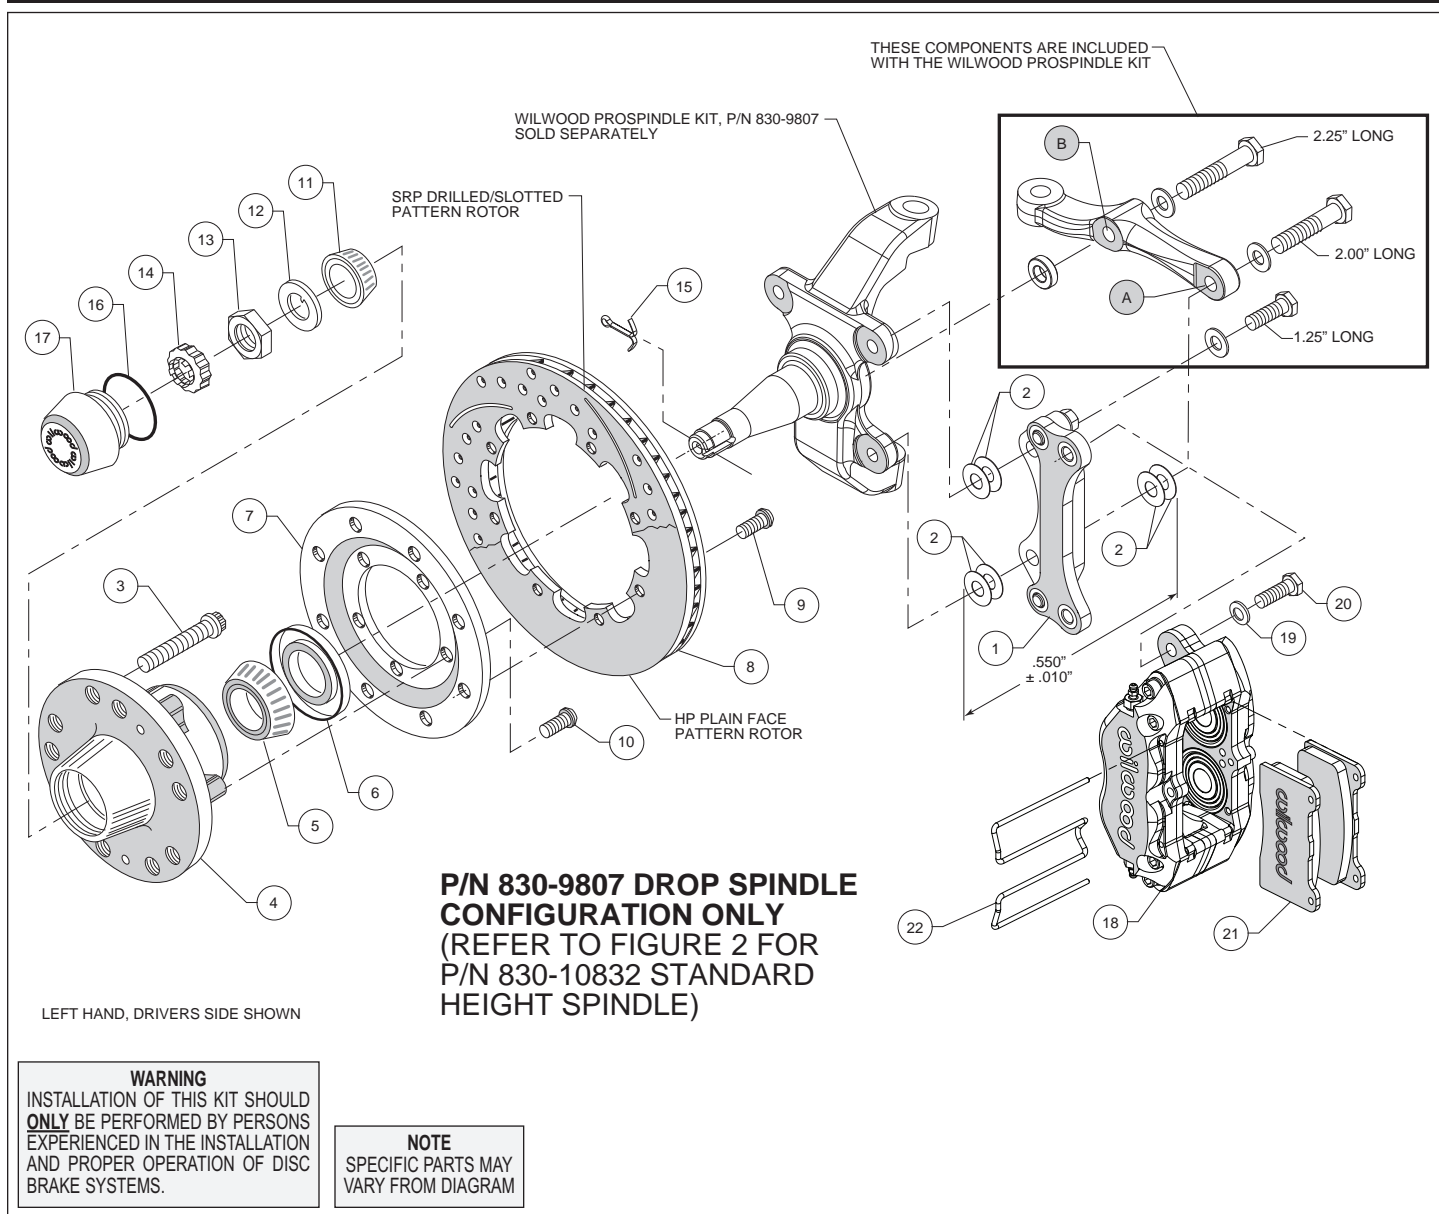
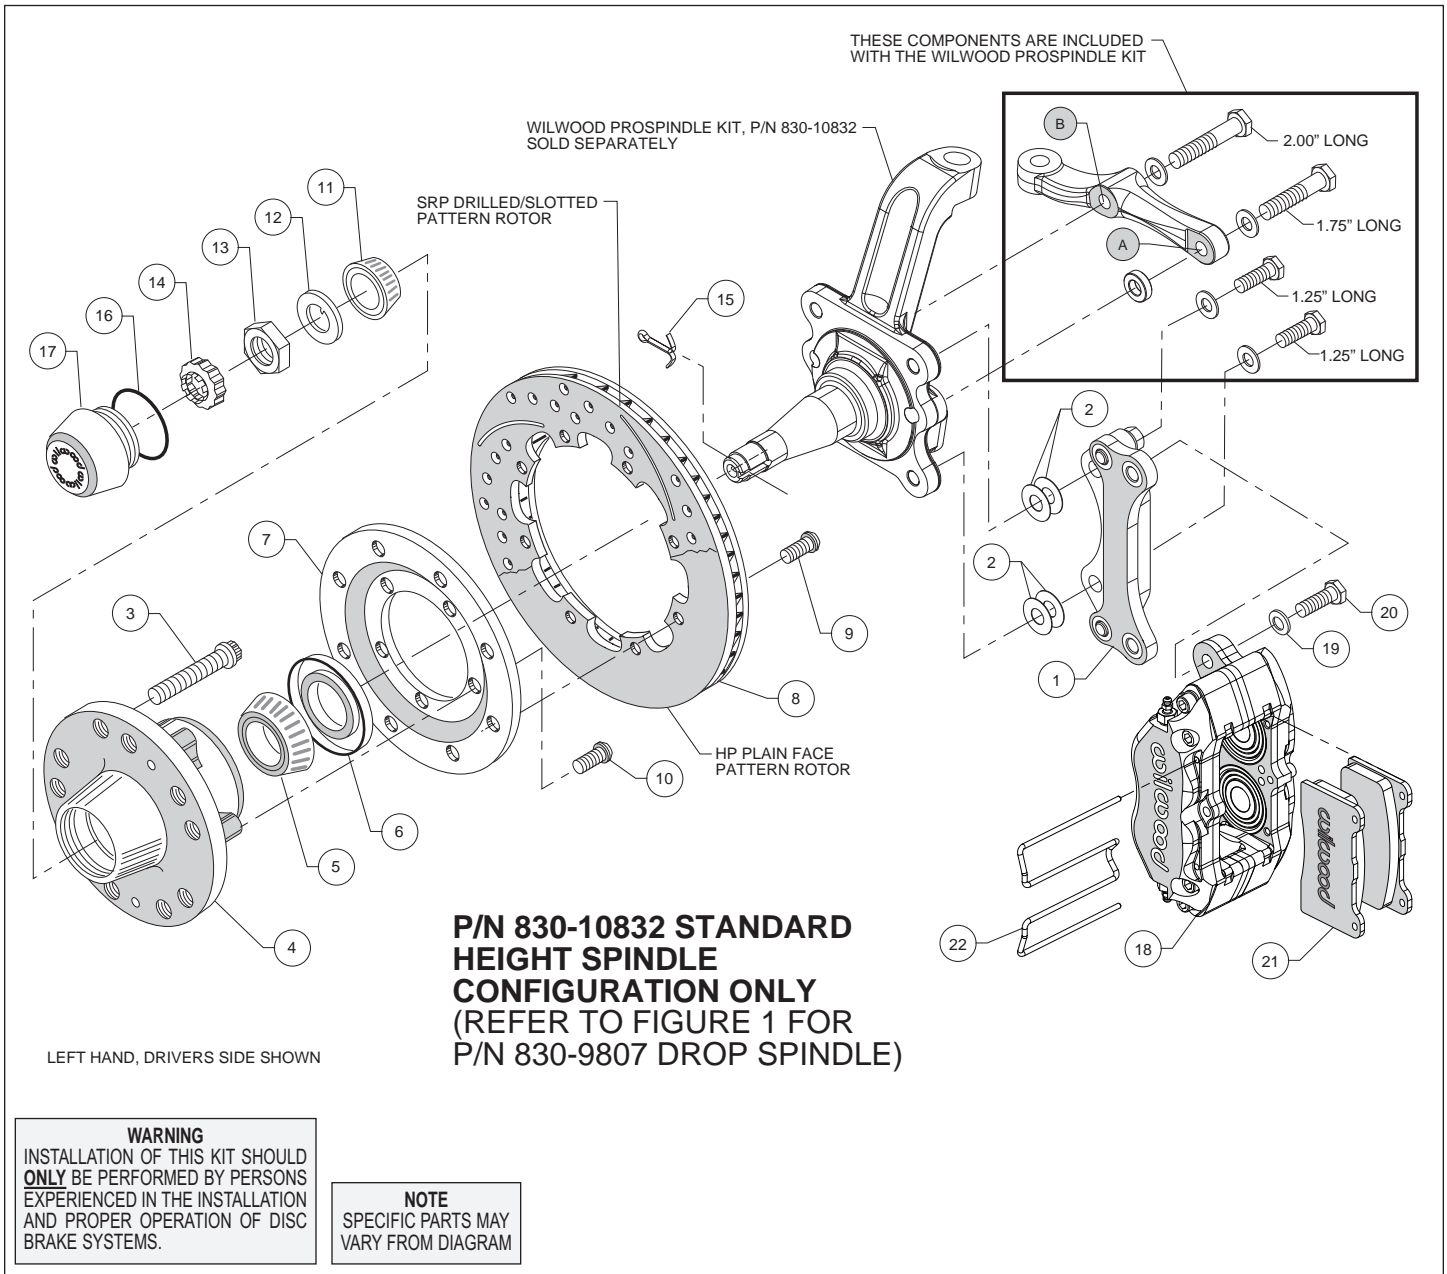

Figure 1. Installation Configuration For Drop Spindle, P/N 830-9807
Figure 2. Installation Configuration For Standard Height Spindle, P/N 830-10832
**Assembly Instructions** (numbers in parenthesis refer to the parts list and Figures 1 and 2 on the preceding pages):
•**NOTE:** Each Wilwood ProSpindle kit includes bolts, washers, and a spacer to mount the steering arm and caliper bracket. The various bolts are identified by length in the following instructions and in Figures 1 and 2.
**For 2" Drop ProSpindle (P/N 830-9807):** The caliper bracket assembly (1) should initially be installed with clean, dry threads on the mounting bolts.
- Orient the bracket as shown in Figure 1 and Photo 1. Install at top spindle hole using 1.25" long bolt and .06" thick washer (from ProSpindle kit), and two .016" thick shims (2) between the bracket and spindle, Figure 1.
- Orient the steering arm, and identify the hole marked 'A', as shown in Figure 1. Install at bottom spindle hole using 2.00" long bolt, .06" thick washer (from ProSpindle kit), two .016" thick shims (2) between the steering arm and the bracket, and another two more .016" thick shims (2) between the bracket and spindle, Figure 1. The bracket is located between the steering arm and spindle. **NOTE:** The bracket and shim washers must add up to a total thickness of .550" ± .010", Figure 1.
- Finish attaching the steering arm through the hole marked 'B', as shown in Figure 1. Install using 2.25" long bolt, .06" thick washer, and .25" thick spacer (all from ProSpindle kit), Figure 1.
**For Standard Height ProSpindle (P/N 830-10832):** The caliper bracket assembly (1) should initially be installed with clean, dry threads on the mounting bolts.
- Orient the bracket as shown in Figure 2 and Photo 2. Install using 1.25" long bolts and .06" thick washers (from ProSpindle kit), and two .016" thick shims (2) on each bolt between the bracket and spindle, Figure 2. Temporarily tighten mounting bolts. **NOTE: The bracket must fit squarely against the mounting points on the spindle.** Inspect for interference from casting irregularities, machining ridges, burrs, etc. Later, after the caliper alignment has been checked, the mount bolts will be secured using red *Loctite*® 271.
- Orient the steering arm, and identify the hole marked 'A', as shown in Figure 2. Install using 1.75" long bolt, .06" thick washer, and .30" thick spacer (all from ProSpindle kit), Figure 2.
- Finish attaching the steering arm through the hole marked 'B', as shown in Figure 2. Install using 2.00" long bolt and .06" thick washer (from ProSpindle kit), Figure 2.
- Install wheel studs (3) into the hub (4), Photo 3. Torque to 77 ft-lb. **NOTE: There are two lug patterns of five holes each in the hub (5 x 4.50 and 5 x 4.75).** Make sure of the correct hole pattern for the wheel application before installing the studs into the hub.
- Pack the large inner bearing cone (5) with high temperature disc brake bearing grease (available from your local auto parts store) and install into the backside of the hub (4), Photo 4.
- Install the grease seal (6) by pressing into the backside of the hub (4), flush with the end of the hub, Photo 4.
- Orient the rotor (8) and the rotor adapter (7) as shown in Figure 1 or 2 and Photo 5. Attach the rotor to the adapter using bolts (9). Using an alternating sequence, apply red *Loctite*® 271 to the threads, and torque to 25 ft-lb.
- Mount the adapter/rotor assembly (7 and 8) to the hub (4) using bolts (10), as shown in Figure 1 or 2 and Photo 6. Using an alternating sequence, apply red *Loctite*® 271 to the threads, and torque to 45 ft-lb.
- Pack the small outer bearing cone (11) with high temperature disc brake bearing grease and install into front of hub (4). Slide the hub assembly onto the spindle. Secure using spindle washer (12) and spindle nut (13), Photo 7. Bearing adjustment: Tighten the nut while turning the hub. When there is a slight bind on the bearings, they are seated correctly. Back the nut off about 1/6 to 1/4 of a turn, or sufficiently to allow .001" to .007" end play. **WARNING: Failure to back off adjusting nut could cause bearing to run hot and be**
- Screw dust cap (17) into hub (4), Photo 8. Friction created by the o-ring (16) on the dust cap keeps it from unscrewing.
- NOTE:** Please reference the caution statement at the beginning of the assembly instructions. Mount the caliper (18) onto the caliper mounting bracket (1) using bolts (20) and washers (19), as shown in Figure 1 or 2. Temporarily tighten the mounting bolts and view the rotor (8) through the top opening of the caliper. The rotor should be centered in the caliper, Photo 9. If not, proceed as follows: